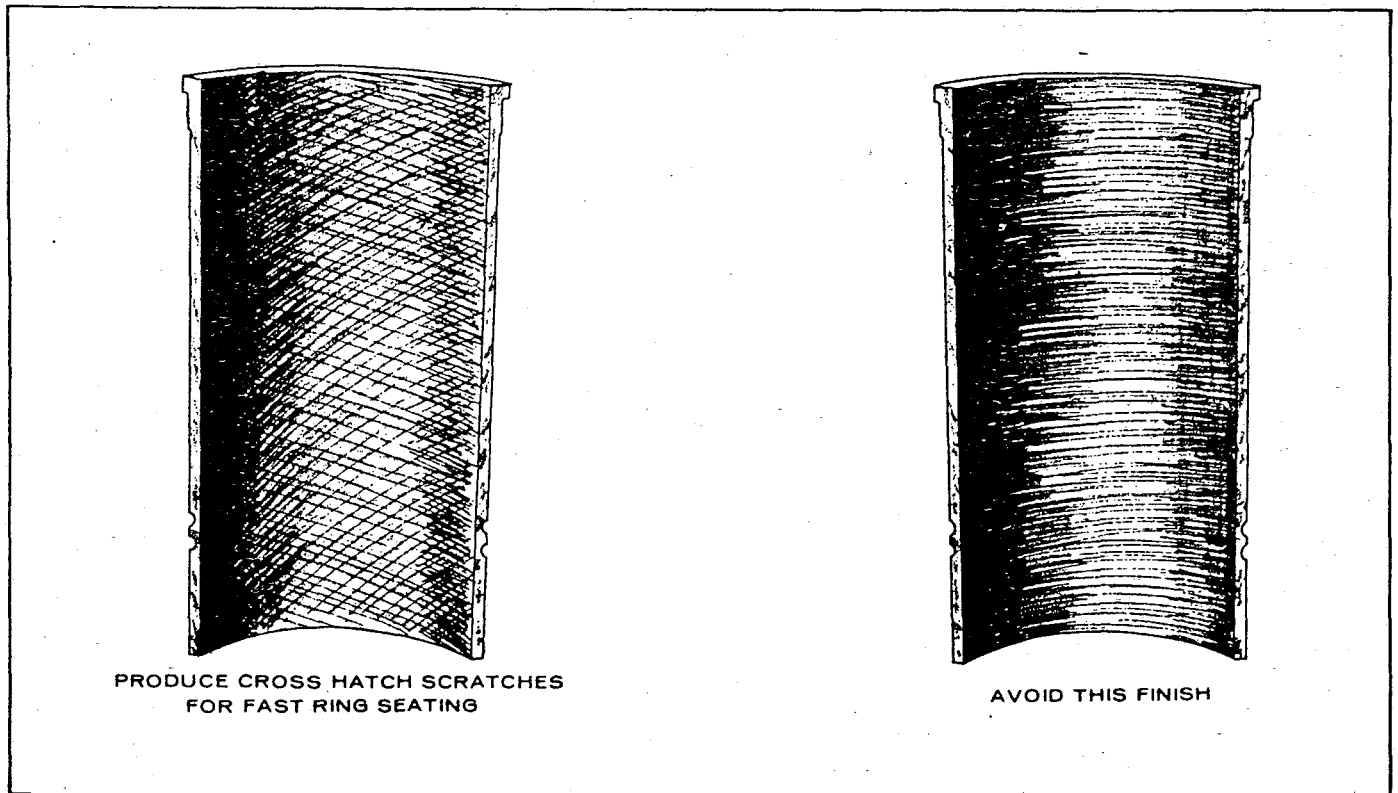

FIGURE 50. CORRECT HONE FINISH
7. When the cylinder is approximately 0.002 inch within the desired bore, change to fine stones and finish the bore. The finish should not be smooth but as shown in Figure 50. The crosshatch formed by the scratching of the stones should form an angle of 23°. This can be achieved by moving the hone up and down in the cylinder about 40 cycles per minute.